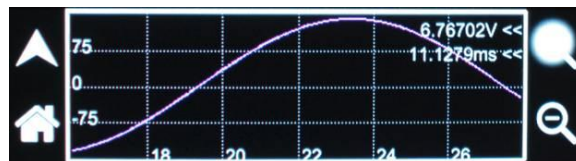

Figure 6-6. TRACE Screen, Expanded Zoom View
7. Using the encoder, click on the Plus-Magnifier to active it, then rotate the encoder to select the waveform window. Click again to show the zoom cursors. Rotate the encoder to move the cursors to the beginning of the waveform section to be expanded; click the encoder to set the first cursor. Rotate the encoder to move a second cursor to the end of the section; click again to display the expanded section; refer to Figure 6-6. Double-arrows in the right-side, upper corner indicate the direction from the expanded trace to the yellow cursor position.
8. Using the touch-screen, tap the Plus-Magnifier to active it, then tap the waveform window to select it. Touch on the beginning of the waveform section to be expanded, and while continuing to touch the screen, move to the ending position; no longer touching the screen will display the expanded section; refer to Figure 6-6. Double-arrows in the right-side, upper corner indicate the direction from the expanded trace to the yellow cursor position.
9. Multiple levels of zoom could be executed. When the display is showing an expanded section, the Minus-Magnifier will be available; refer to Figure 6-6. Tapping on it will cause the display to revert to the previous level of zoom. The level of zoom could be reversed until the original waveform is displayed.